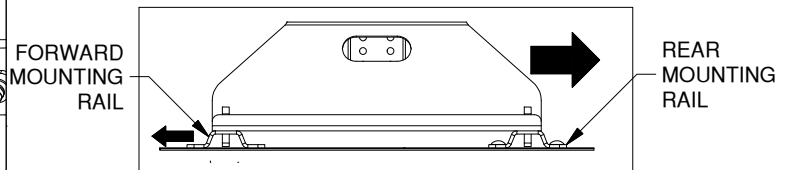

Figure C2: Side view of RV base and mounting rails.
2. **IMPORTANT:** Before drilling forward mounting holes pull the RV base toward the rear of the truck and push the forward rail toward the cab of the truck to correctly space the mounting rails, see Figure C2.